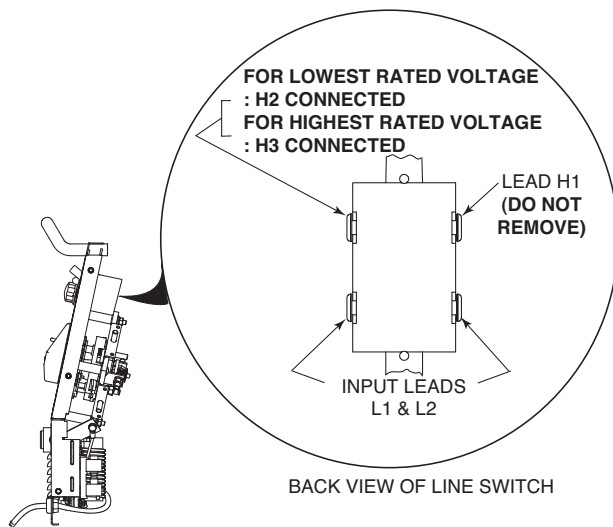

FIGURE A.1 Reconnect Leads
**For the lowest rated voltage connection** (Refer to figure A.1):
**For the highest rated voltage connection** (Refer to figure A.1): The machine is normally shipped connected for the highest rated voltage, however verify the following: